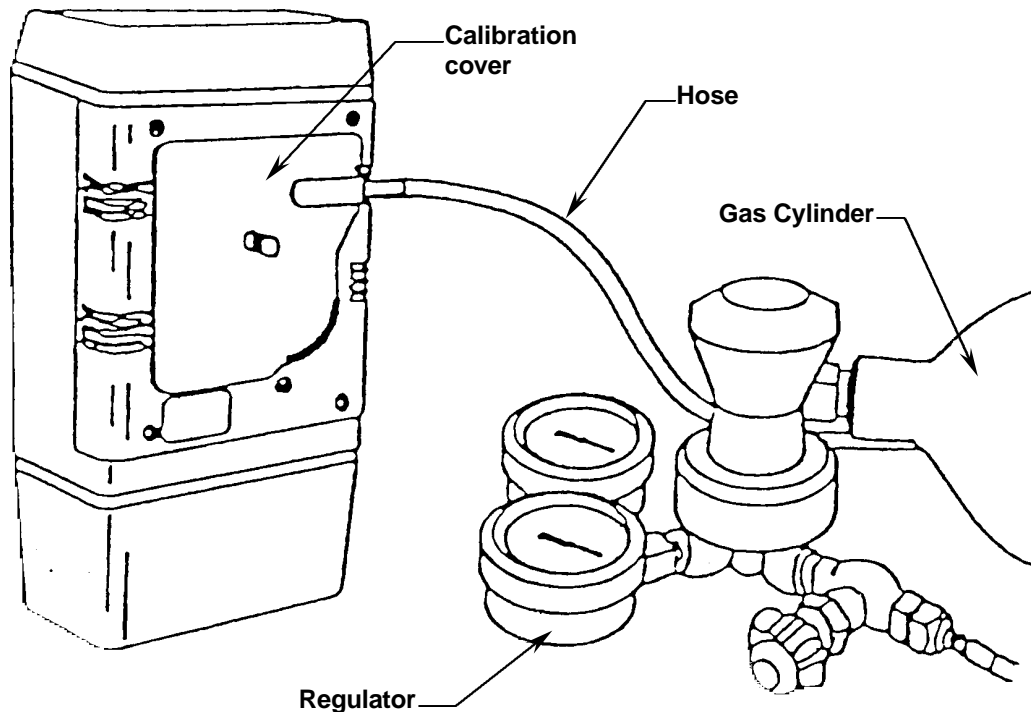

Figure 3-6: Calibration Gas Equipment Arrangement
- Connect the calibration gas cylinder to the injection cover with the vinyl hose; See Figure 3-6